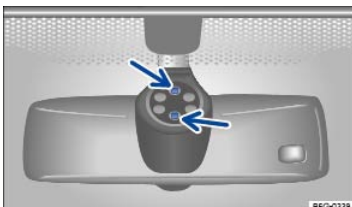

Fig. 98 Inside the front windshield above the inside mirror: Sensitive rain sensor surface (arrows).
The rain sensor may misread what is happening in the *detection zone of its sensitive rain-sensor surface* ⇒ Fig. 98 (arrows) and not work for a number of reasons which may include:
- **Dirt:** Caked-on dust, wax, any other buildup on the windshield (lotus effect), or car-wash detergent residue can lower the rain sensor's sensitivity and cause it to react too slowly or not at all. Clean the rain sensor's sensitive surface ⇒ Fig. 98 (arrows) regularly and check the wiper blades for wear or damage.